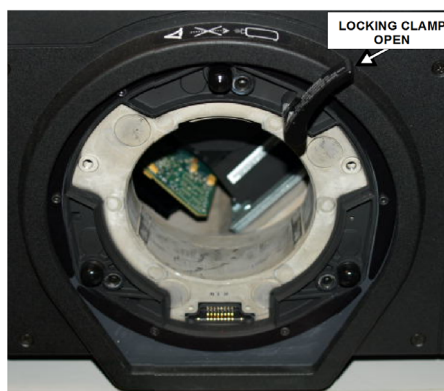

FIGURE 2-1 LOCKING CLAMP OPEN
1. Rotate the lens clamp to the OPEN position, see Figure 2-1 Locking Clamp Open.